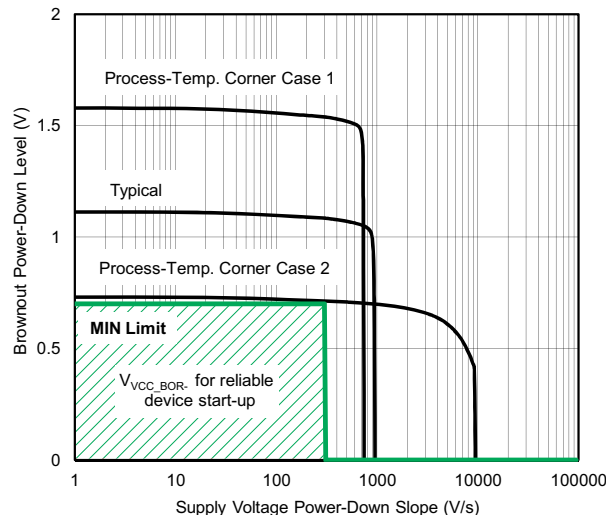

Figure 5-6. Brownout Power-Down Level vs Supply Voltage Down Slope
- (1) In case of a supply voltage brownout scenario, the device supply voltages need to ramp down to the specified brownout power-down level V_{VCC_BOR-} before the voltage is ramped up again to ensure a reliable device startup and performance according to the data sheet including the correct operation of the on-chip SVS module.
- (2) Fast supply voltage changes can trigger a BOR reset even within the recommended supply voltage range. To avoid unwanted BOR resets, the supply voltage must change by less than 0.05 V per microsecond ($\pm 0.05 \text{ V}/\mu\text{s}$). Following the data sheet recommendation for capacitor C_{DVCC} should limit the slopes accordingly.
- (3) The brownout levels are measured with a slowly changing supply. With faster slopes the MIN level required to reset the device properly can decrease to 0 V. Use the graph in Figure 5-6 to estimate the V_{VCC_BOR-} level based on the down slope of the supply voltage. After removing VCC the down slope can be estimated based on the current consumption and the capacitance on DVCC: $dV/dt = I/C$ with dV/dt : slope, I: current, C: capacitance.
- (4) The brownout levels are measured with a slowly changing supply.